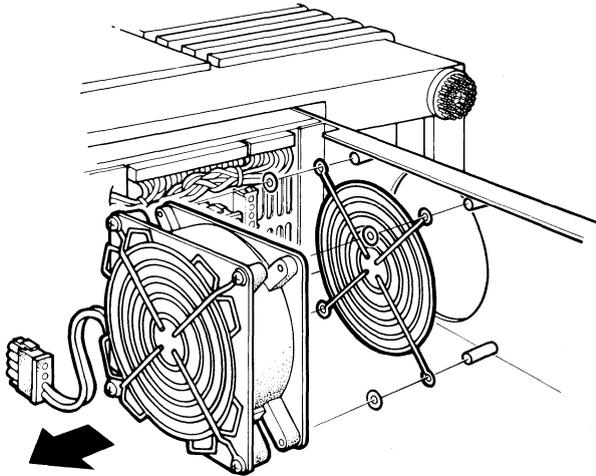

Figure 6-27 Remove the Front Cooling Fan
6. Remove the four screws and spacers that hold the fan and fan guard to the chassis and remove the fan (Figure 6-27).